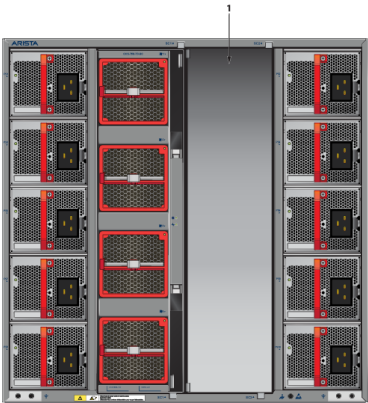

Figure 50: 758 Rear View with one Switchcard Installed
**Note:** When the switchcard and fan assembly is removed, a metal cover swings into place (Figure 50: 758 Rear View with one Switchcard Installed).